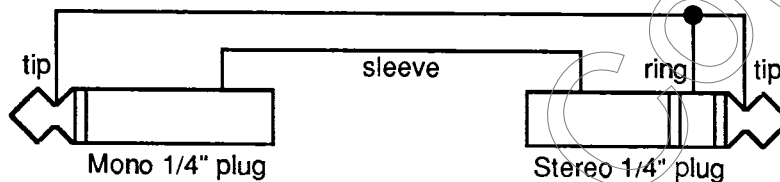

FIGURE 9 - Mono to Stereo Cable Wiring
- One 1/4" Mono to 1/4" Stereo cable (see **Figure 9** for instructions on how to make this cable).